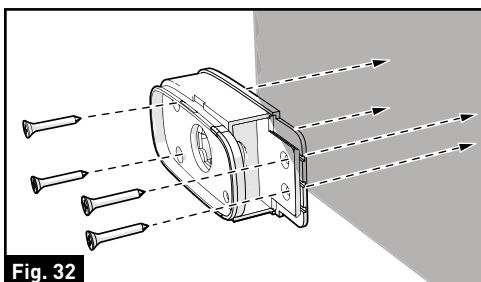

Fig. 32
5. Secure the traffic light base on the vehicle wall using four flat self-tapping screws. (Fig. 32)